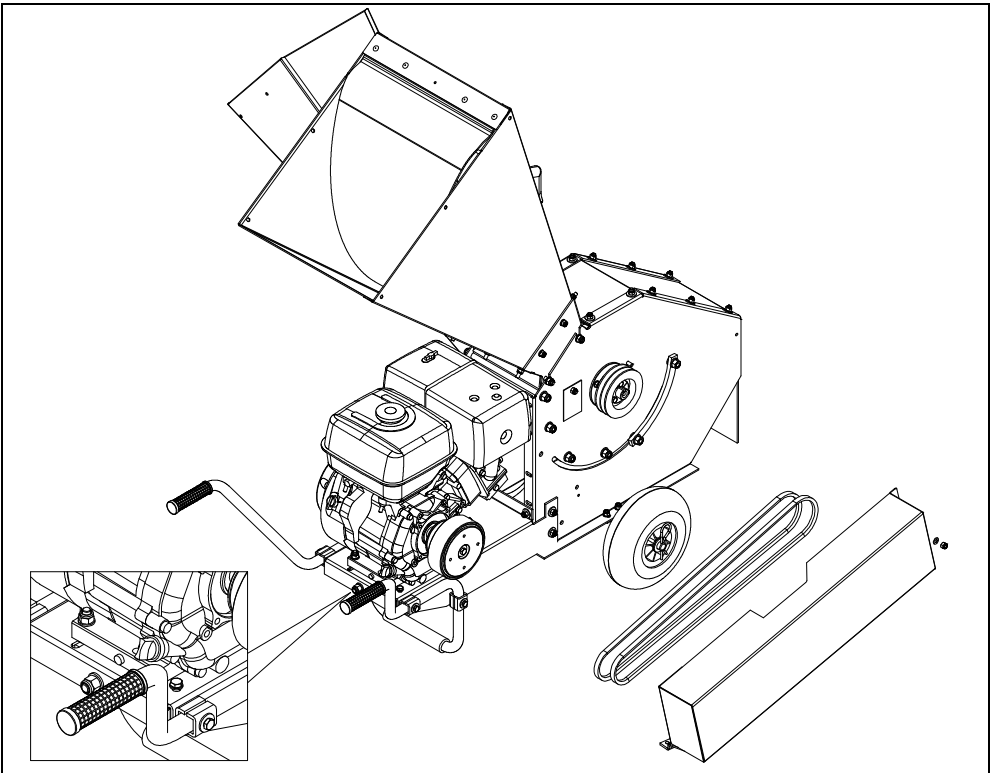

Fig. 25
- Remove the belt guard (Fig. 25).